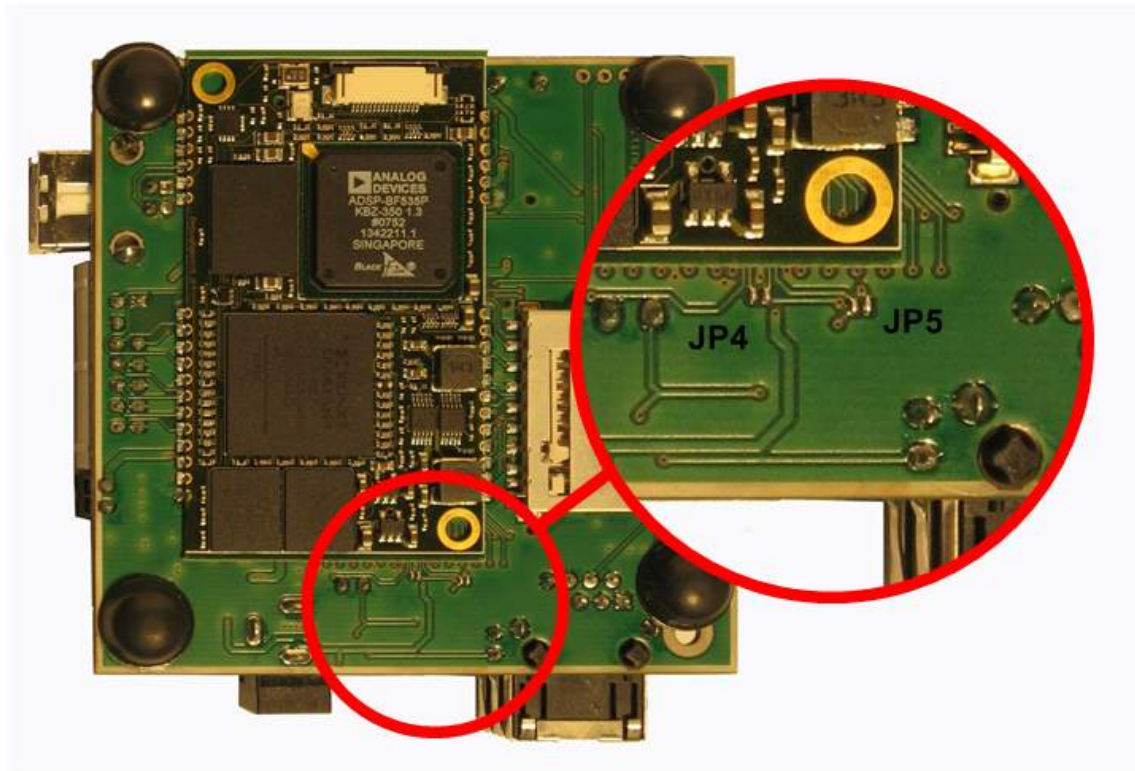

Figure 4-1: Position of JP4 and JP5
**\*) Note:** Pin 17 and pin 44 of the X7 connector are not connected, unless the solder jumper JP4 and JP5 are mounted on the bottom of the DEV-BF5xx-Lite board. The signals of pin 77 and pin 104 of the inserted Core Module are routed directly to the USB connector X9 on the DEV-BF5xx-Lite board. Figure 4-1 shows the position of JP4 and JP5. JP4 connects pin 17 and JP5 connects pin 44 see Figure 4-1.